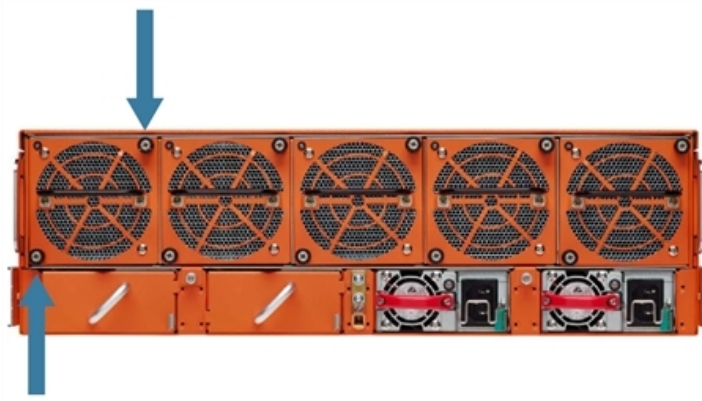

Figure 7 Fan Module Screw Location on GigaVUE-HC3 Rear
1. Locate the two thumb screws on the fan module as shown in Figure 7 Fan Module Screw Location on GigaVUE-HC3 Rear.